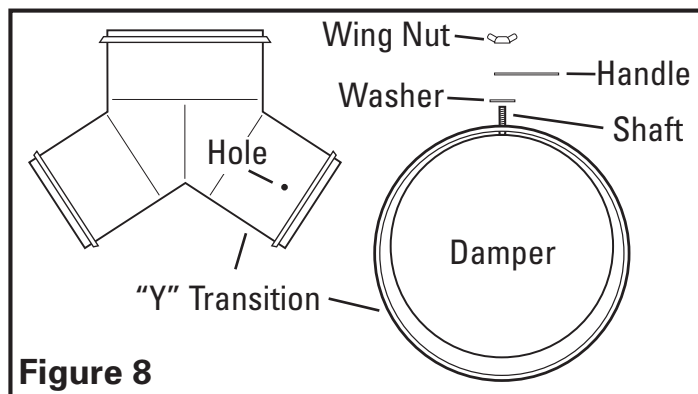

Figure 8
3. Insert the shaft of the damper into the hole drilled in step 2. Place the washer, handle, then wing nut onto the shaft (Figure 8).